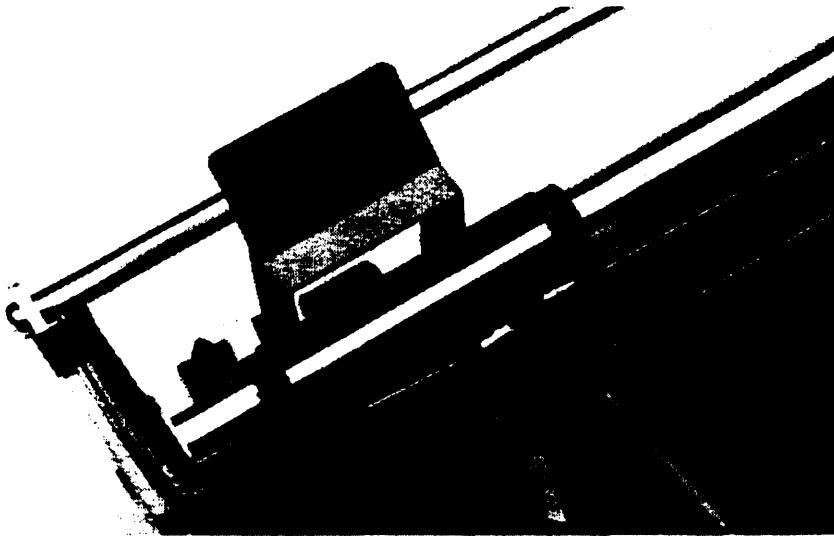

Figure 6-18. Carriage-Screw Removal
2. Move the carriage to the full left position and remove the T7 screw that secures the cable to the carriage. The screw can be accessed through the bottom cutout in the mechanism frame. See figure 6-18.